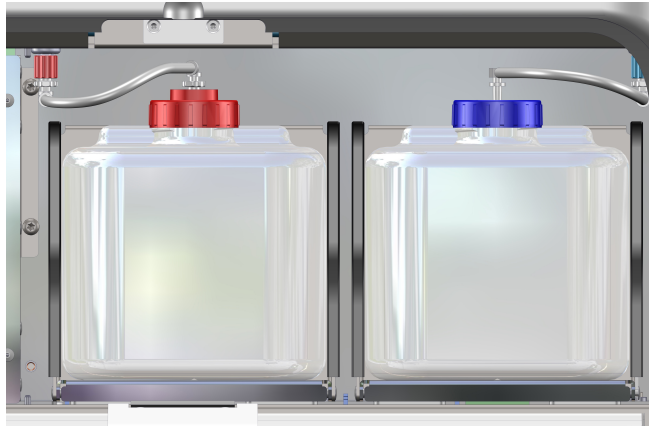

Figure 61
2. The iWASH PRO container is located in the bottle tray on the right (Figure 61).